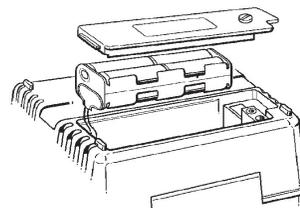

Fig 12
- Use a screwdriver to remove the screw from the battery compartment cover on the rear of the instrument (see Fig. 12 above). Remove the cover. Retain the screw and cover.